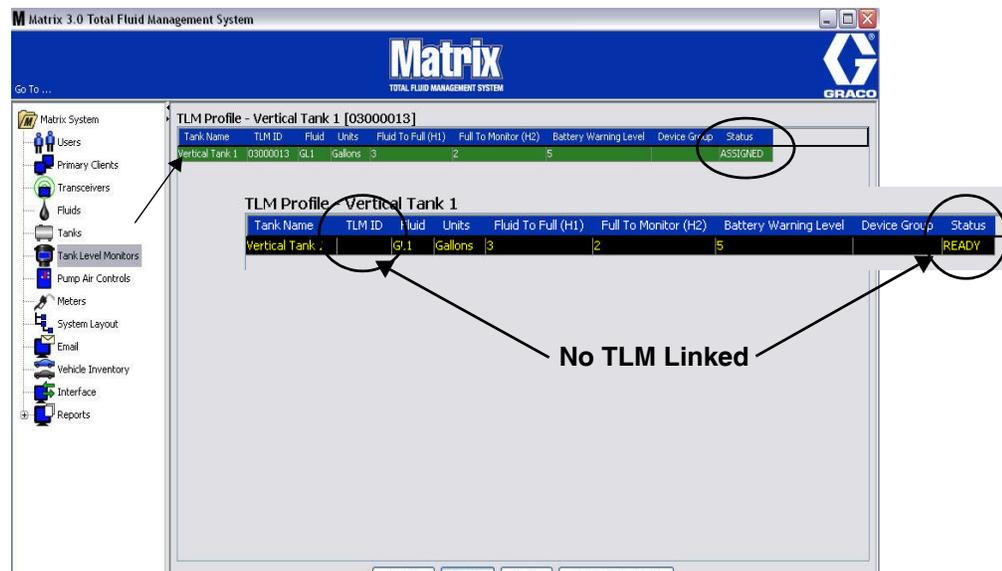

FIG. 125
3. When all fields have been completed, click the OK button on the bottom of the Add TLM Profile Screen. The profile is added to the top of the list. “Assigned” in the Status column confirms the profile is complete. “Ready” will appear in the Status column when the profile is incomplete. Notice in FIG. 125 the TLM ID field is blank indicating a TLM is not linked to Matrix system.